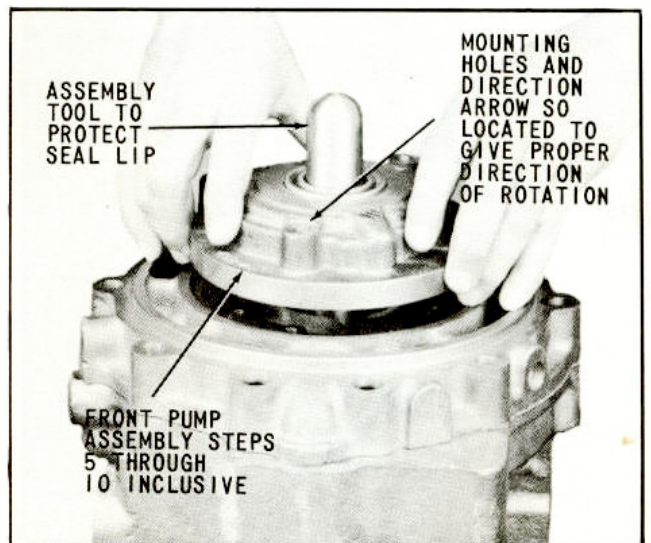

Fig. 94 Mounting Front pump
11. Place assembled transmission on rear face of coupling in upright position, as shown in (Fig. 94). Inspect upper exposed adapter face for dirt and obstructions, then lubricate and install front pump gasket.
13. Use a suitable tool to cover the splined portion of the input shaft and thereby protect the rubber lip on the oil seal during assembly of front pump, (Fig. 94).
14. After checking the following items, place the front pump assembly, steps 5 through 10 inclusive, squarely down over the protruding input shaft and assembly tool, (Fig. 94).